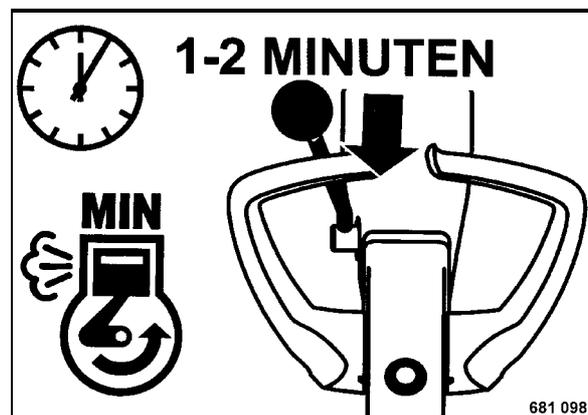

Fig. 23
- Set the throttle lever (Fig. 23) to position "MIN" (idle speed).